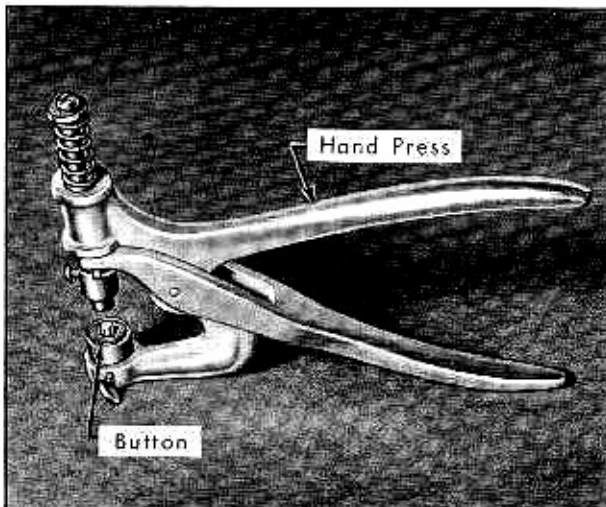

Fig. 3-12 Position Button on Tool Die
6. Place button on die. Fig. 3-12.